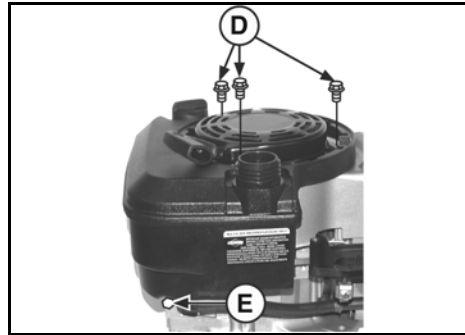

Figure 14
2. Install screws (D, Figure 14) and spacer (E), then install tank from engine. Torque screws to values listed in Section 12 - Engine Specifications.